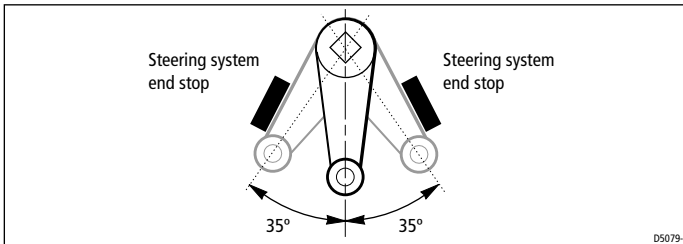

Figure 7: Total rudder movement
- The total rudder movement is limited to ± 35 degrees by the steering system end stops rather than the linear drive's end limits (see *Figure 7*).